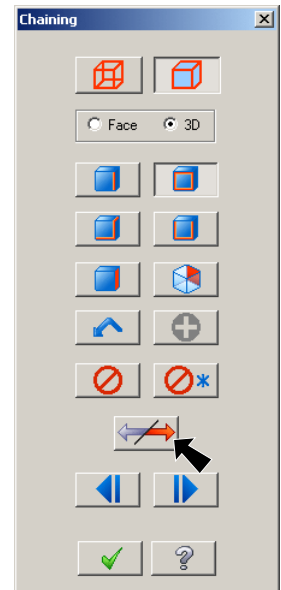

Fig. 85
Step 8. Click OK  in Chaining dialog box, **Fig. 85**.